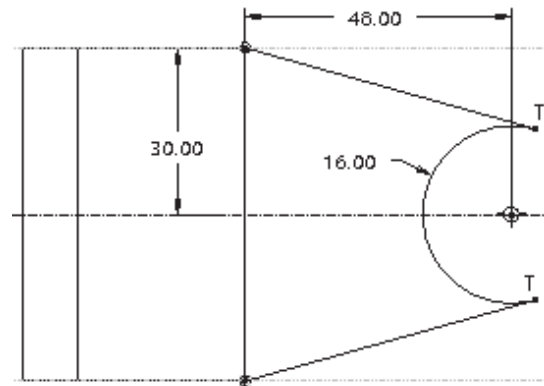

Figure 5-94 Sketch with dimensions and constraints
The next feature to be created is an extrude feature. The section for the extrude feature is shown in Figure 5-94. Before drawing the sketch, turn the model display to **No hidden**.
1. Draw the sketch using various sketcher tools. In the sketch, draw a center line passing through the center of the arc, as shown in Figure 5-94. This center line helps in dimensioning the sketch. Add the required constraints and dimensions to the sketch, as shown in Figure 5-94. Before exiting the sketcher environment, turn the model display to **Shading**.